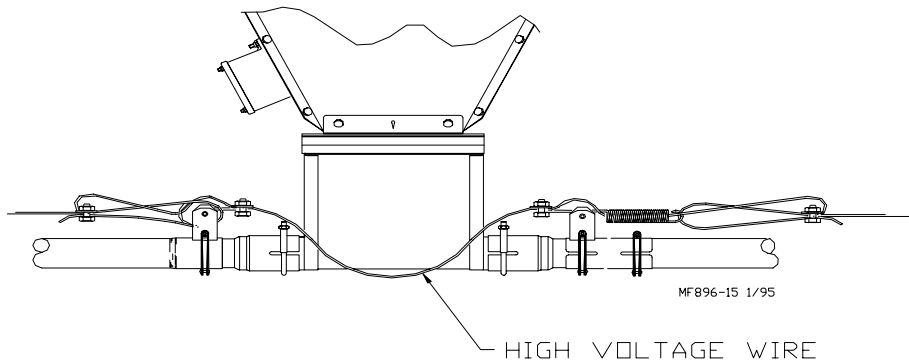

Figure 49. (Side View)
16. Install the high-voltage wire from the insulator on one side of the boot to the insulator on the other side of the boot. See **Figure 49**.